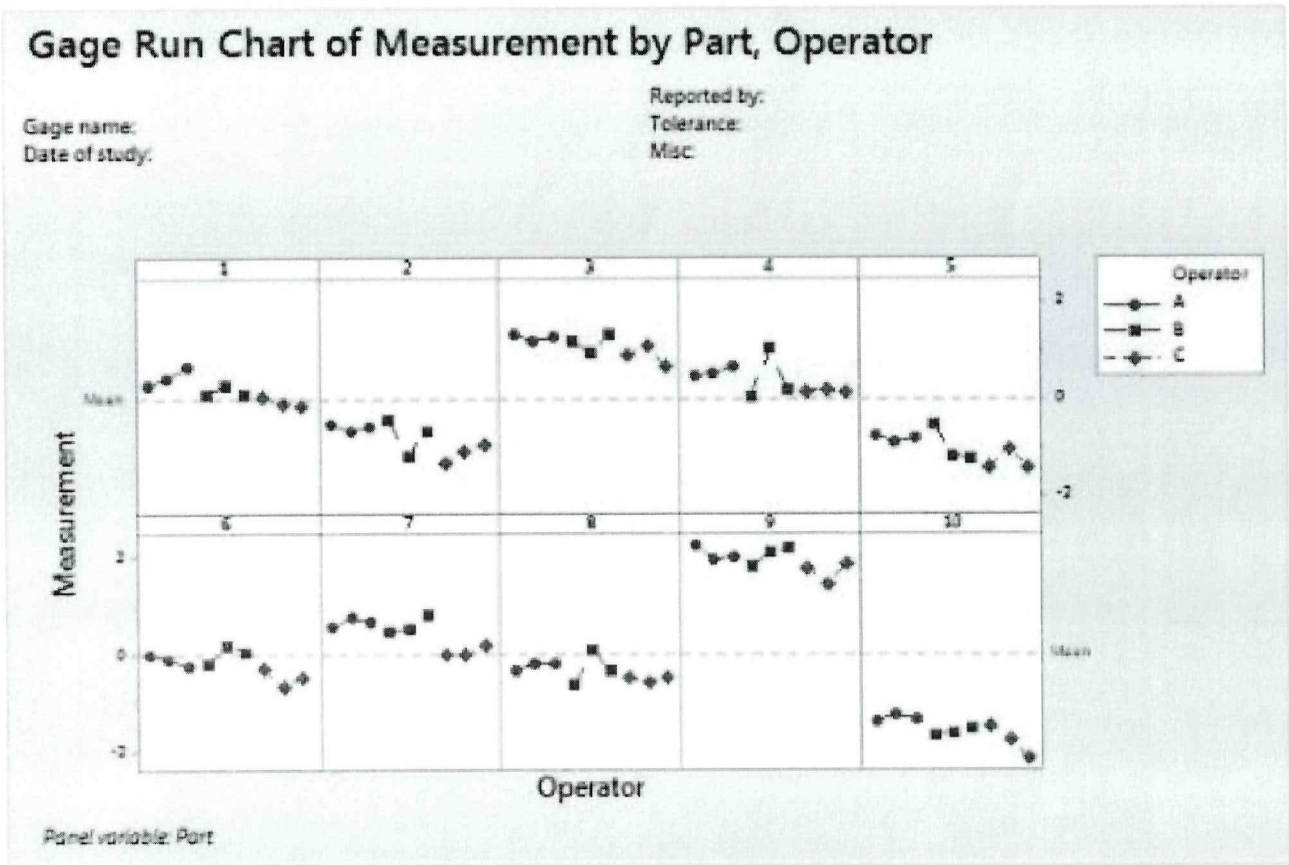

Figure Q4 (e)
- (d) Investigate **TWO (2)** benefits of gauge reproducibility and repeatability (GR&R) in measurement system. (4 marks)
- (e) **Figure Q4 (e)** shows a gauge run chart of three operators (operator A, B, C) measuring ten parts, three time each. Produce **THREE (3)** points of interpretation of the chart. (6 marks)
- (b) Produce a complete list of **FOUR (4)** basic characteristics of plug gauge. (4 marks)
- (c) Surface metrology refers to the geometry and texture of surface, such as roughness, waviness, and roundness. Discover **TWO (2)** points of differences in surface texture affects the selection of material in certain application. (4 marks)
- (d) Analyse the stylus measurement system by producing **FOUR (4)** features of stylus in measuring surface texture. (8 marks)